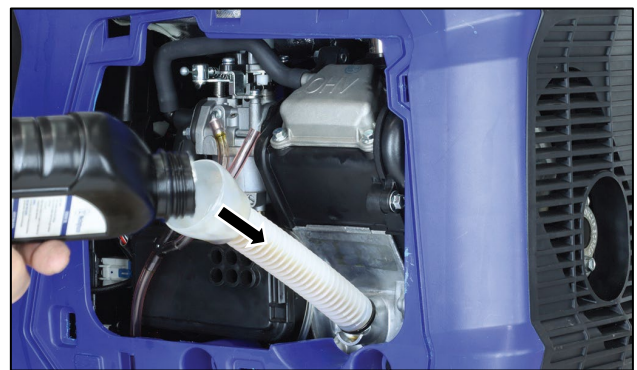

Figure 19 Add Engine Oil
5. Screw the supplied oil funnel into the threaded oil fill plug hole and slowly add engine oil to the engine as shown in Figure 19. Check the oil level periodically to avoid overfilling.